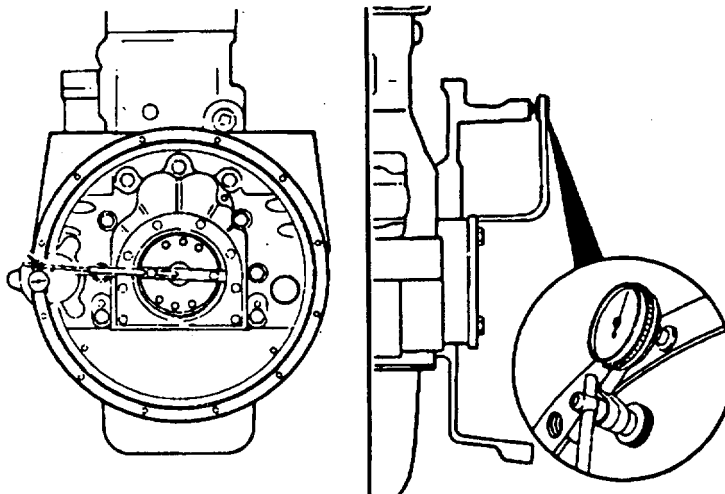

FIGURE 3-92. Positioning Tip of Dial Indicator.
- (5) Measure the flywheel housing face alignment.
- (a) Install the dial indicator as shown (FIGURE 3-92).